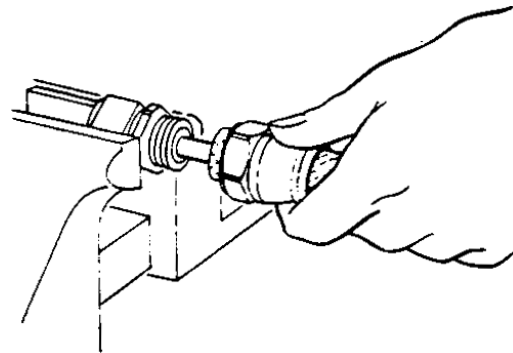

Figure 16: Sizing tube to sleeve
Step 5. Size tube to sleeve. Size tube to sleeve by pushing hose onto the nipple until the sleeve bottoms against the nipple chamfer. Remove and recheck to be certain that the sleeve is still properly positioned. Again push hose onto the nipple until the sleeve is bottomed against the nipple chamfer. (See **Figure 16.**)